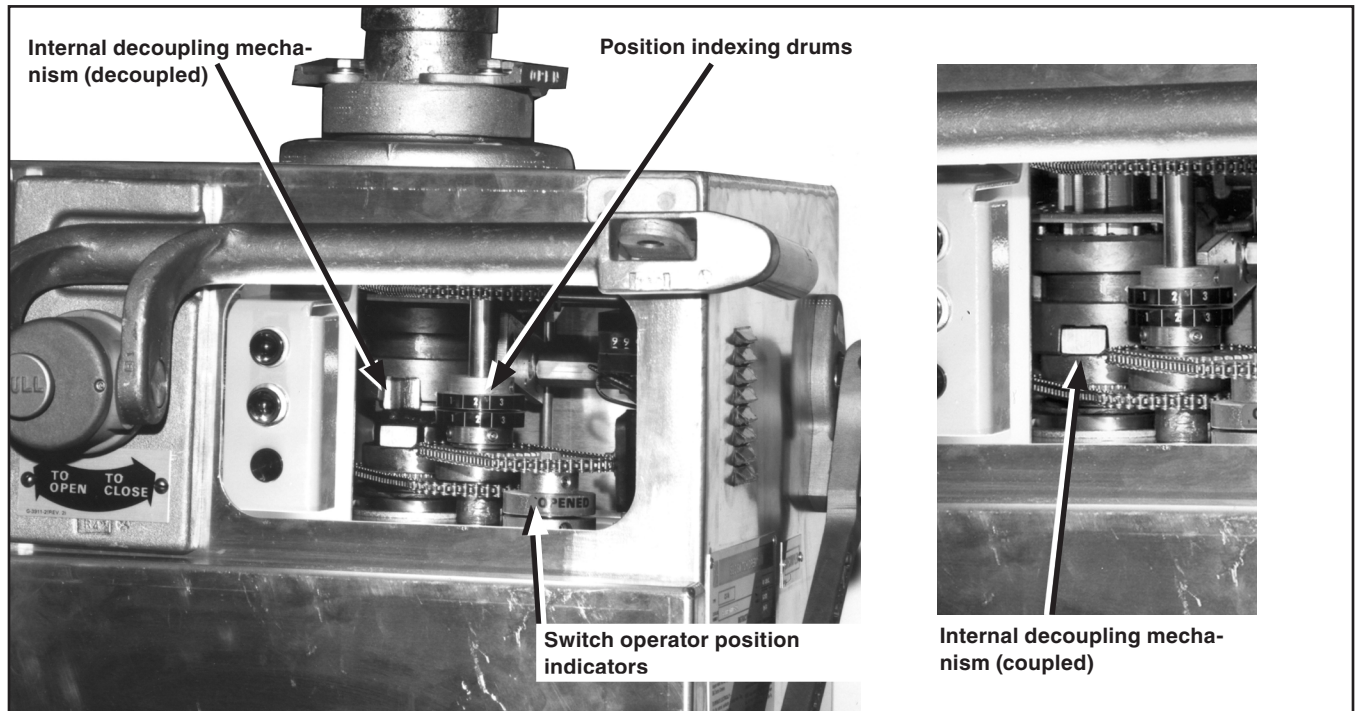

Figure 7. The internal decoupling mechanism viewed from the observation window.
During the intermediate segment of the selector handle travel, which includes the position at which actual disengagement (or engagement) of the internal decoupling mechanism occurs, the motor-circuit source leads are momentarily disconnected and both the "opening" and "closing" motor contactors are mechanically blocked in the **Open** position. Visual inspection, through the observation window, will verify whether the internal decoupling mechanism is in the **Coupled** or **Decoupled** position. See Figure 7 on page 15. The selector handle may be padlocked in either position.
- STEP 2.** Turn the manual operating handle slowly until the position indexing drums are numerically aligned to move the switch operator to the exact position for coupling. See Figure 7.